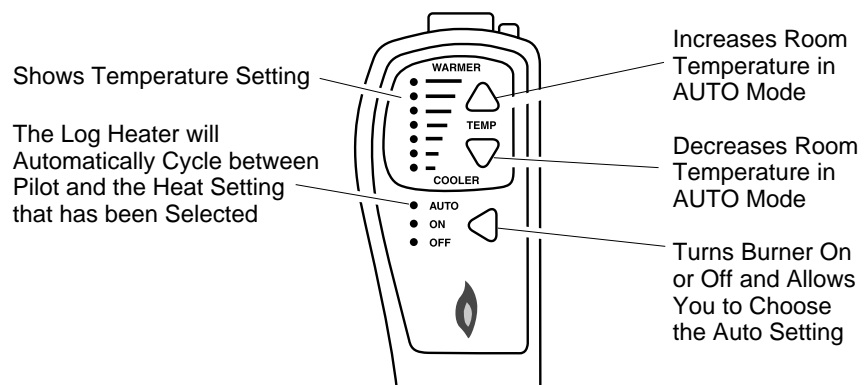

Figure 50 - Hand-Held Thermostat Remote Control Unit Selections (GHRCTA Only)
- 2b. Press the AUTO/ON/OFF button on the hand-held remote control (see Figure 50). The lights to the left of the button will show AUTO, ON, or OFF.